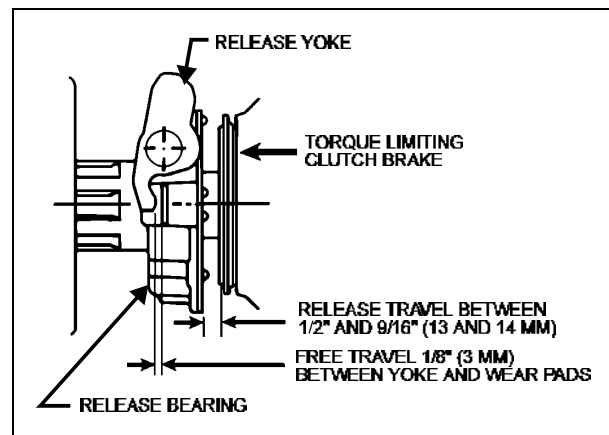

FIGURE 2: RELEASE TRAVEL AND FREE PLAY TRAVEL ADJUSTMENT MA3E0223
- Measure the **release travel** (clearance between release bearing housing and clutch brake). Refer to figure 2. The clearance should be between 1/2" and 9/16" (13 and 14 mm).
1. Check **free travel** as shown in figure 2. The clearance should be 1/8" (3 mm).